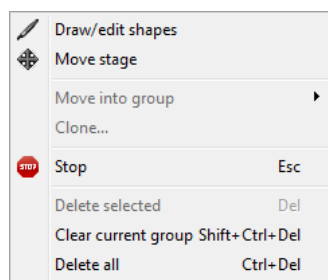

Figure 6.4: *CellCut context menu*
The drawing mode can be activated through the buttons in the *mmi CellCut* plug-in or in the context menu (Fig. 6.4). The context menu can be activated by pressing the right mouse button (with the cursor in the video window) and by choosing *Draw/edit shape*. The last used drawing tool will be activated.
- Using the context menu (Fig. 6.4)
To delete all shapes, or all shapes from the current group, use the context menu (Fig. 6.4) or corresponding keyboard shortcuts *Ctrl + Del* and *Ctrl + Shift + Del*.
or use *Clone...* from the context menu (Fig. 6.4).